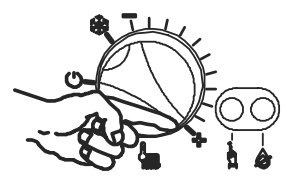

Fig. 2.6
The output temperature of c.h. water is adjustable from a minimum of about 25°C to a maximum of about 85°C (Fig. 2.6), by turning the knob (8).